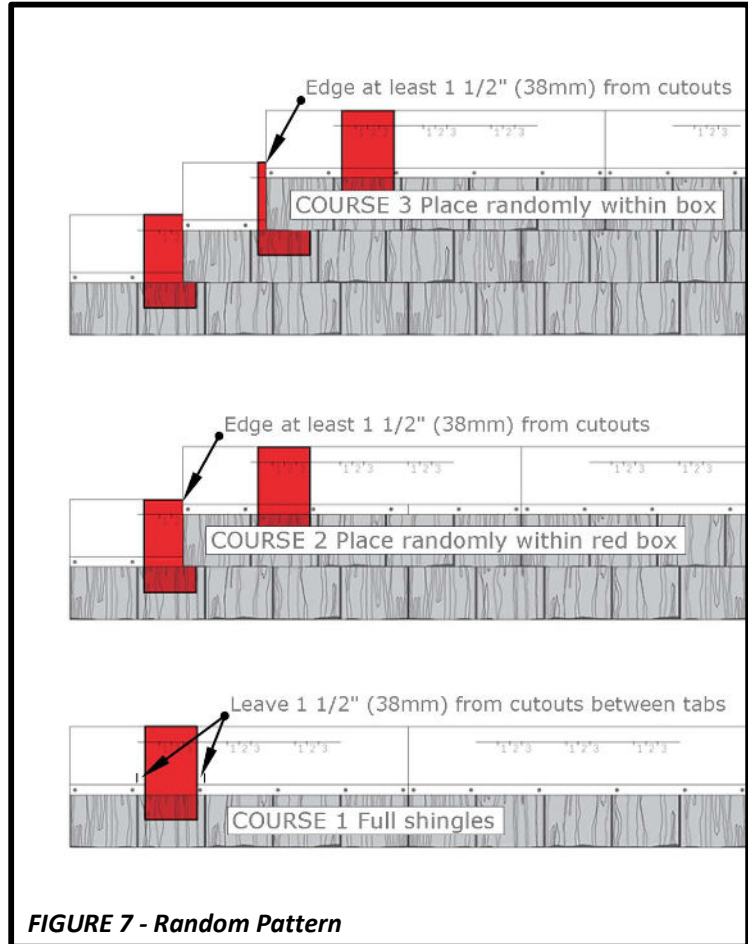
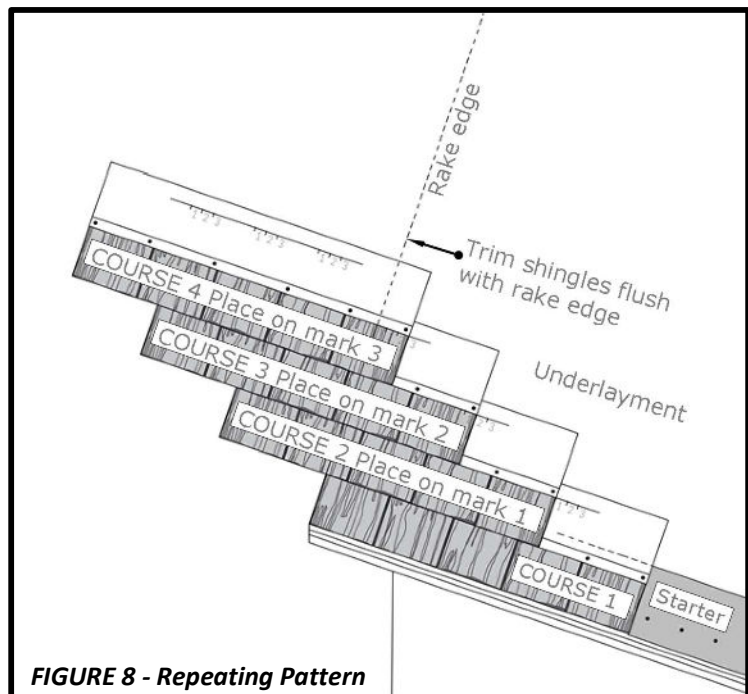
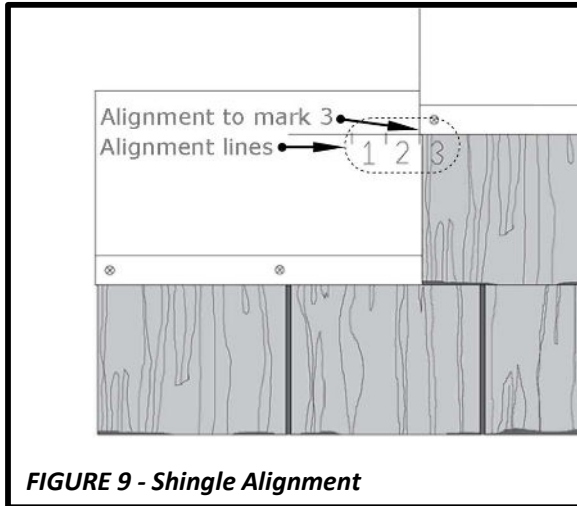

FIGURE 7 - Random Pattern
FIGURE 8 - Repeating Pattern
FIGURE 9 - Shingle Alignment
- In order to achieve the most realistic look, a random offset is preferred, as shown in **Figure 7**. A repeating offset, as shown in **Figure 8**, is also acceptable. If a repeating pattern is used, it is possible that the tab cutouts could line up at some angles when viewed from the ground. For the best appearance, the method used should be consistent on all slopes.
- Irrespective of the method used, trim shingles flush with the rake edge. See **Figure 8**.
- COURSE 2** - Place shingles in a diagonal offset pattern. Use the horizontal reference lines on the shingle to provide a random offset distance. Be sure to keep the edge of the shingle at least **1 1/2" (38mm)** from the cutout on the shingle below. See **Figure 7**.
- Establish the overall diagonal method or stair-step effect. See **Figure 8**. Ensure proper placement of shingles on the alignment lines. See **Figure 9**.
- For the **REPEATING PATTERN** method, place the edge of the shingle on the alignment line. See **Figure 9**.